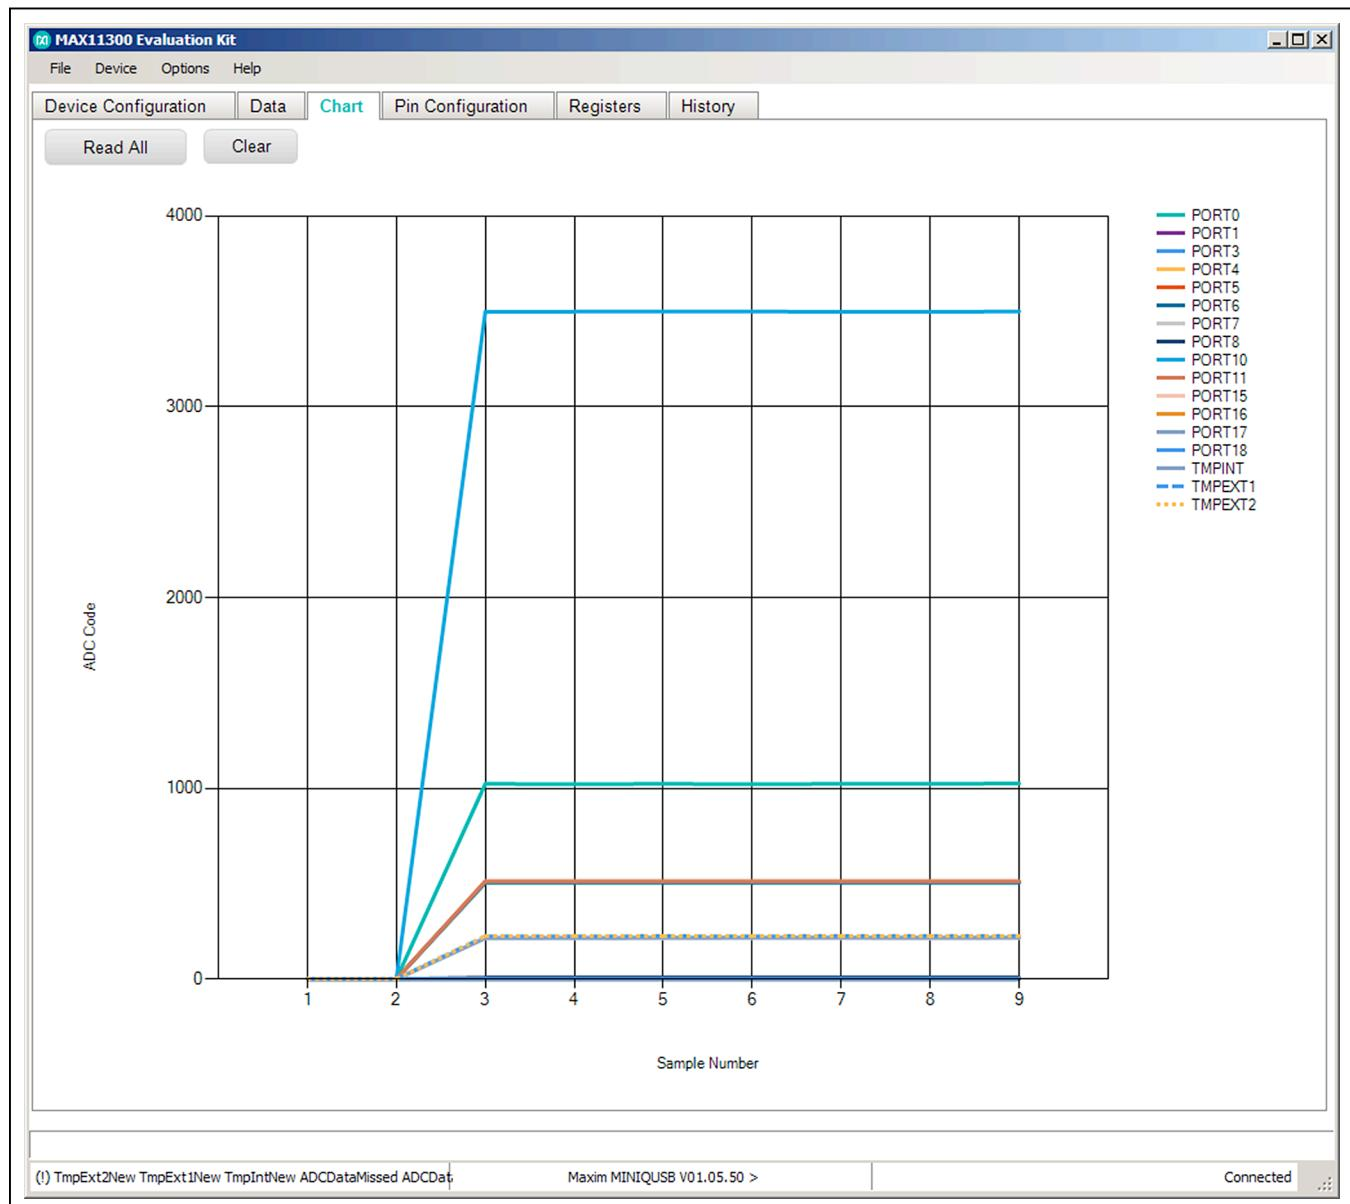

Figure 4. Chart Tab
**Out** or **GPO Out** controls, or provide ADC or GPI input values. Pins configured for GPI input can be used as interrupt sources by double-clicking in the **Interrupt** cell. Select the **Chart** tab (Figure 4), then check **Options** menu | **Polling** to show the analog inputs on a graph.